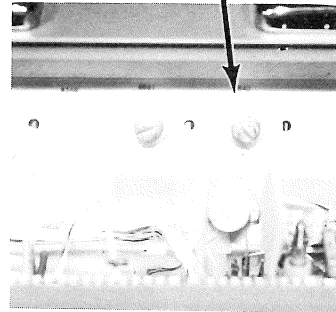

Figure 8
1. Adjust the HIGH VOLTAGE ADJ. (R840) for exactly -1850v as measured with the voltmeter. (See Fig. 8)